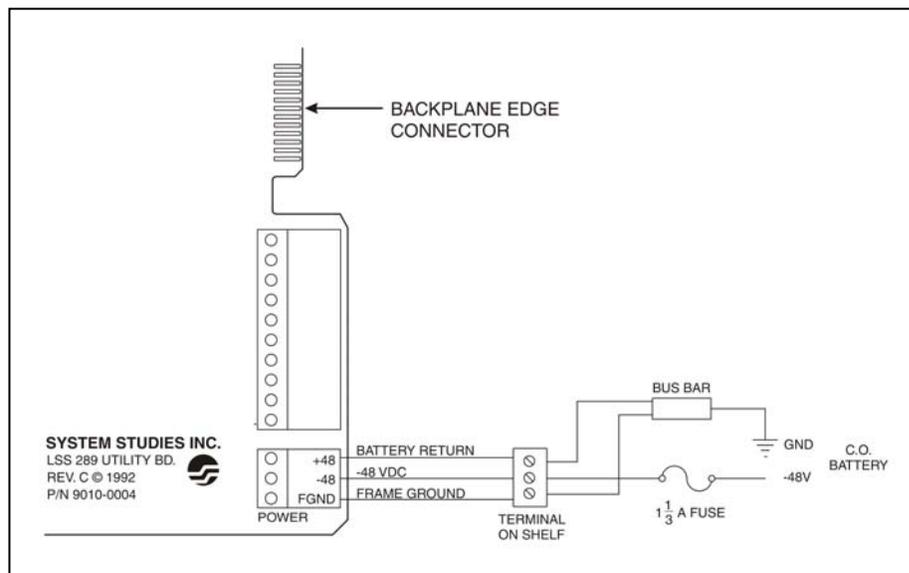

FIGURE 3-4: 289H UTILITY CARD WIRING SCHEMATIC
3. Find and remove the power connection block on the 289H Utility Card. This small green or black rectangular block is located near the bottom edge of the card, as viewed from the back of the 289H chassis (see FIGURE 3-4). It is recommended that you remove the power connection block from the Utility Card before attempting to wire it. This will simplify the wiring process and prevent accidental damage to the card. The connector block can be removed (unplugged) from the card by pulling it straight out the back of the card. Only moderate force is required.
7. Plug the connection block back into the 289H Utility Card, making sure you replace it in its proper position (see FIGURE 3-4).